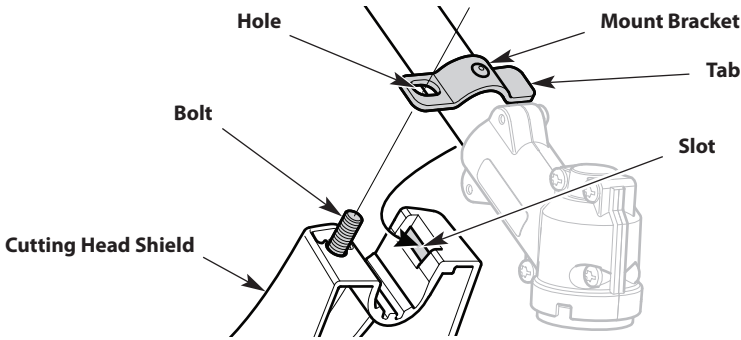

Fig. 3
2. Insert the short tab (the one without a hole) on the mount bracket into the slot on the cutting head shield (Fig. 3).
3. Rotate the cutting head shield until the bolt on the cutting head shield protrudes through the hole on the mount bracket (Fig. 3).